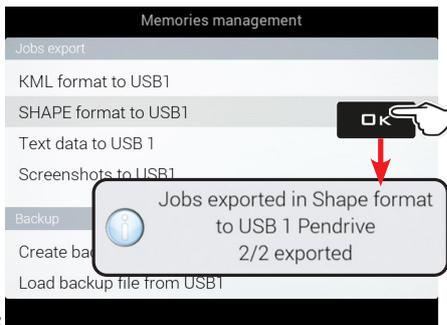

Fig. 288
- Select **SHAPE format to USB 1** (Fig. 288) and press **OK**.